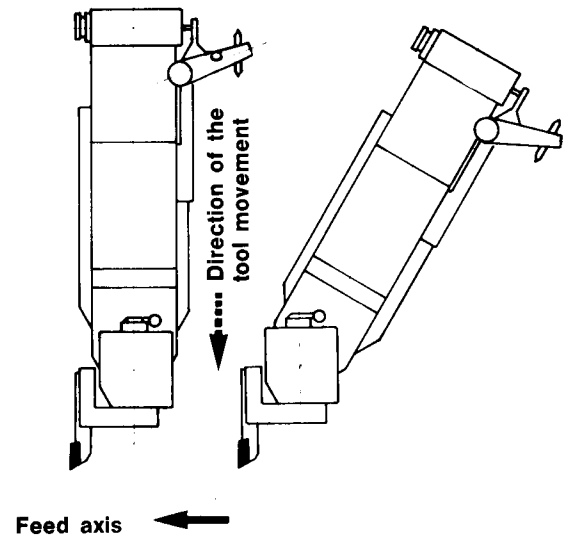

Fig. 48a
Depending on the copier position it is necessary to rotate the tool-holder turret in such a way that the tool movement, operated by the knob (3), should always be perpendicular to the feed axis (see fig. 48a – b).